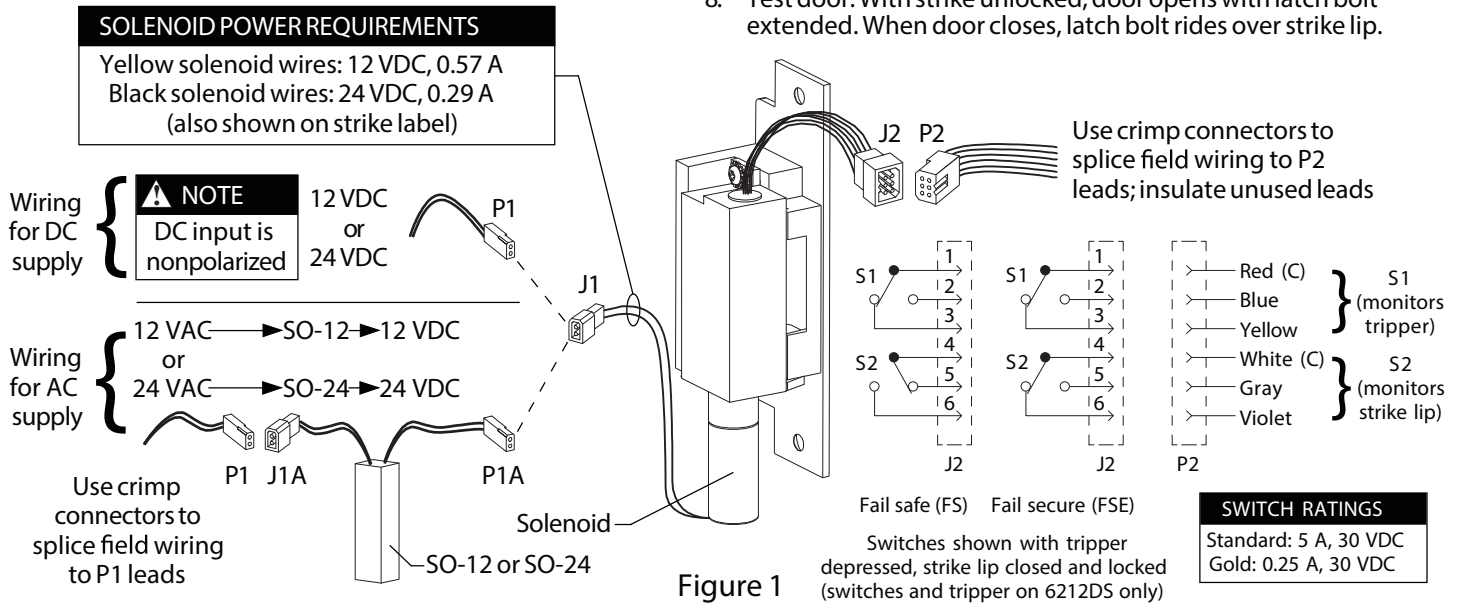

Figure 1
3. Wire strike (Figure 1). (Switches on 6212DS only.)
5. Test strike: Apply solenoid power. Fail secure (FSE) lip unlocks. Fail safe (FS) lip locks. Figure 1 shows status of switches.